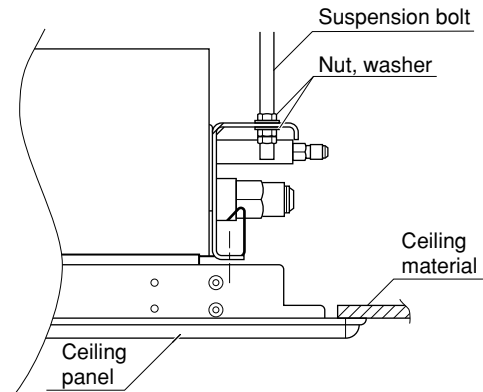

Fig. 9-4
- (4) Check to see that the ceiling panel is properly aligned with the seamline of the ceiling. If not, readjust the indoor unit by adjusting the nuts to the proper suspension point. (Fig. 9-4)